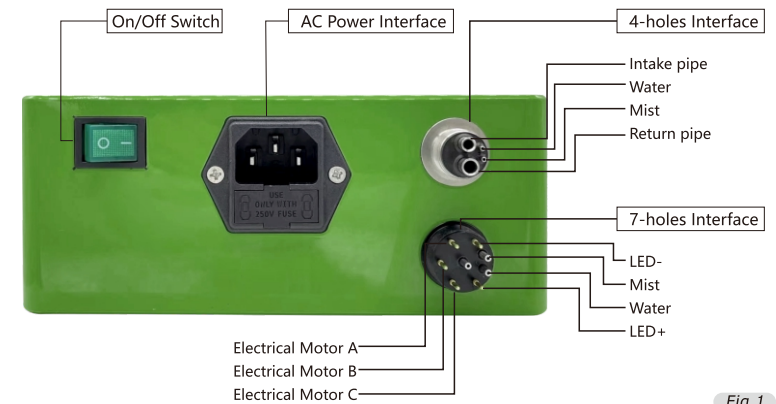

Fig.1
- ① Connect the power adapter provided with the machine to the power interface of the Motor, and connect the power cord to the power supply;
- ② Connect the dental treatment table and the 4-holes interface of the Motor with the 4-holes connection tube, and tighten the nut.
- ③ Insert the connector of the 7-holes multi-purpose connection tube into the 7-holes interface of the Motor, and tighten the nut.
- ④ Insert the Brushless Electrical Motor into 7-holes interface, tighten the nut.
- ⑤ Connect the interface as shown in Figure 1.